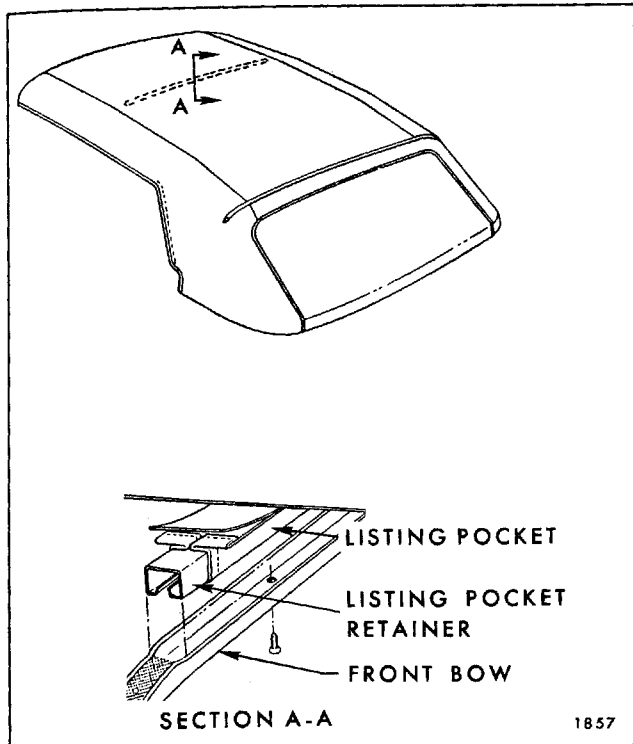

Fig. 6-32—Listing Pocket Retainer
14. At underside of front bow, remove screws securing listing pocket retainer to bow (Fig. 6-32).
12. Install front bow to listing pocket retainer with attaching screws (Fig. 6-32).